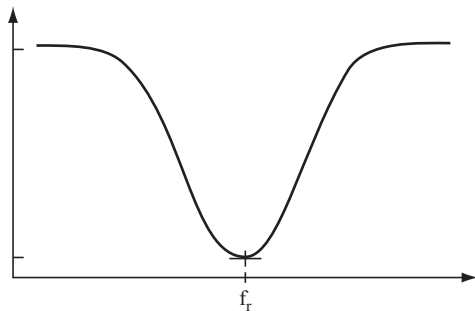
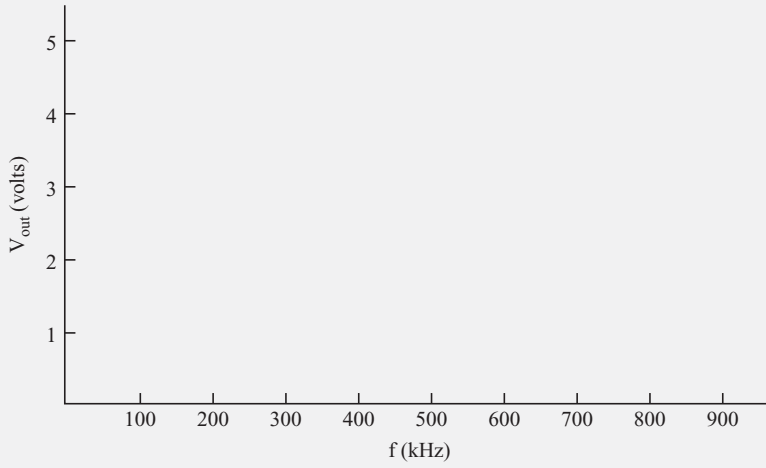

FIGURE 7.6
FIGURE 7.8
If V_{out} is plotted on a graph against the frequency for the circuit shown in Figure 7.5, the curve looks like that shown in Figure 7.6.
- In the blank graph shown in Figure 7.8, plot V_{out} vs f_{in} with the voltage on the vertical axis and the frequency on the X axis. The curve should have the same shape as the curve shown in Figure 7.6.